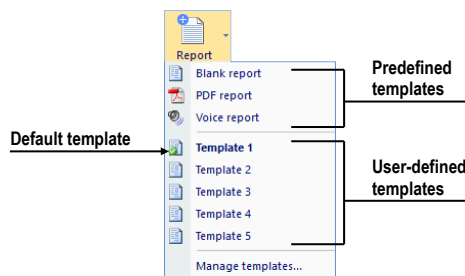
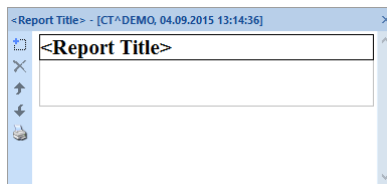

Figure 401 – Report button with menu
Figure 404 – Report dialog
TomoCon offers the possibility of creating three types of reports – structured text report, PDF report and voice report. To create a new report from the default template, click **Report** button in the main toolbar. To create a new report from another specific template, click the drop-down arrow of **Report** button and choose the template from the menu (see Figure 401). To manage templates, click the drop-down arrow of **Report** button and choose **Manage templates...** item.
-  **Text type templates** - write a text report in **Report** dialog displayed subsequently (see Figure 404). Select either **Blank report** template or another of the available text templates (e.g. Template 1, see Figure 401). User-defined text template defines the structure of the new text report.
TomoCon offers the possibility to create your own text structure report using the report editor. This concerns a special dialog window (see Figure 404) in which you can write a structured text. The heading of the newly created report is filled in automatically from the patient study properties.
To edit an existing report, select it from the report list by clicking on the report; then click  **Edit report** icon in the toolbar. The **Report** editor (see Figure 404) is then displayed in which you can change the content of the report.